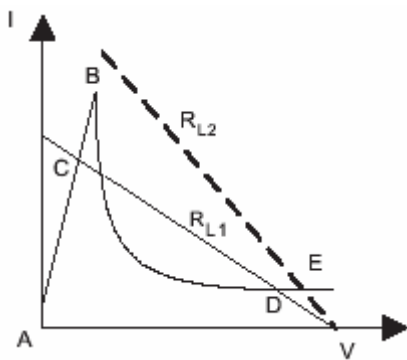

Fig.20 Overcurrent protection
- Over current (see Fig. 20), the load current increases due to a decrease in load resistance. Example when transformer winding short-circuit.